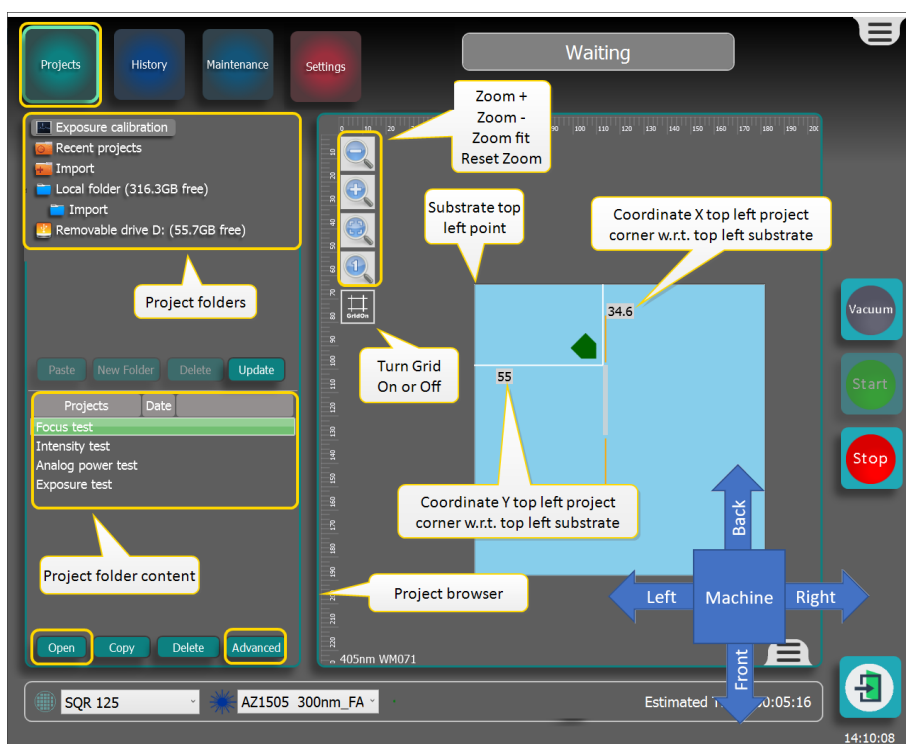

Figure 3-43 Selecting a project
1. Select **Projects**, see Figure 3-43.